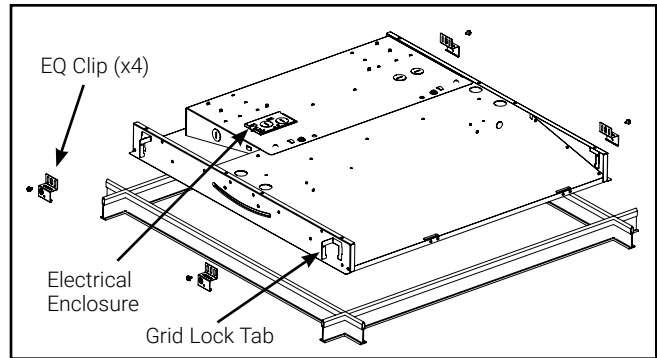

Figure 1. Install in Ceiling T-Grid System
2. Install the luminaire into the ceiling T-grid system. Ensure that the luminaire sits snugly in T-grid system (Figure 1).